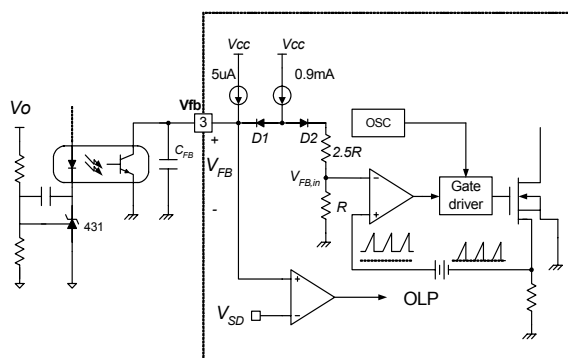

Figure 5. Pulse Width Modulation (PWM) Circuit
4.4 Over Voltage Protection (OVP) : In the event of a malfunction in the secondary side feedback circuit, or an open feedback loop caused by a soldering defect, the current through the opto-coupler transistor becomes almost zero (refer to Figure 5). Then, V_FB climbs up in a similar manner to the over load situation, forcing the preset maximum current to be supplied to the SMPS until the over load protection is activated. Because excess energy is provided to the output, the output voltage may exceed the rated voltage before the over load protection is activated, resulting in the breakdown of the devices in the secondary side. In order to prevent this situation, an over voltage protection (OVP) circuit is employed. In general, V_{CC} is proportional to the output voltage and the FPS uses V_{CC} instead of directly monitoring the output voltage. If V_{CC} exceeds 19V, OVP circuit is activated resulting in termination of the switching operation. In order to avoid undesired activation of OVP during normal operation, V_{CC} should be properly designed to be below 19V.